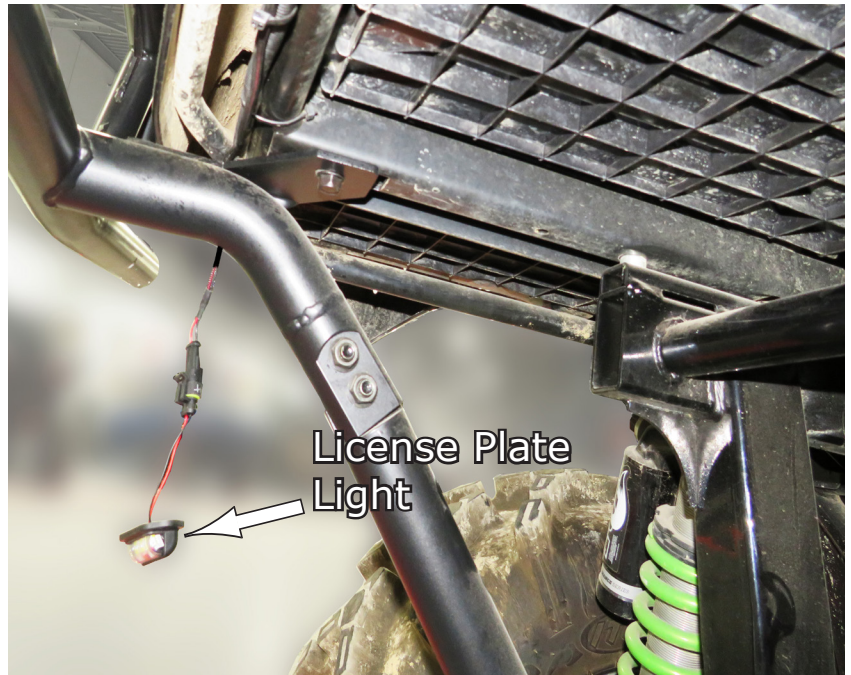

Fig.19
18. The remaining Black/Red wire set that goes to the Driver's Side is for the license plate light, which you can choose where to install. Tie up out securely of the way. See **Fig.19**.